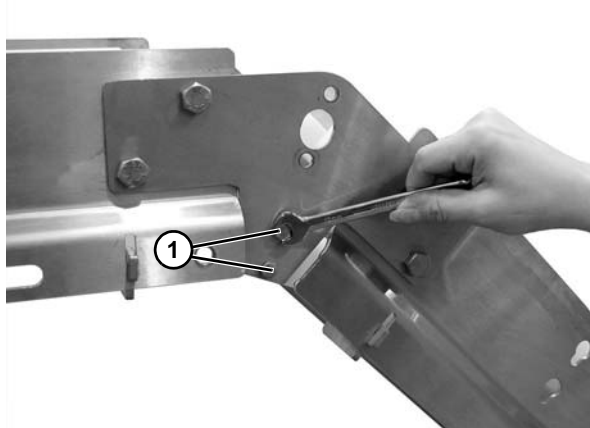
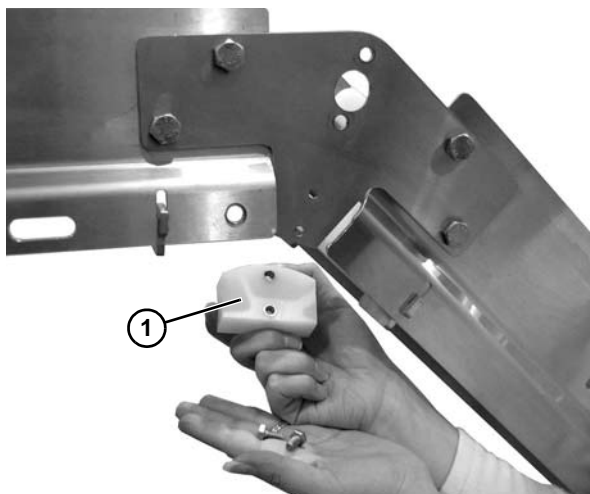

Figure 66
Figure 67
- Remove two cap screws (**Figure 66, item 1**) and inner belt return guide (**Figure 67, item 1**). Repeat on opposite side of the conveyor.